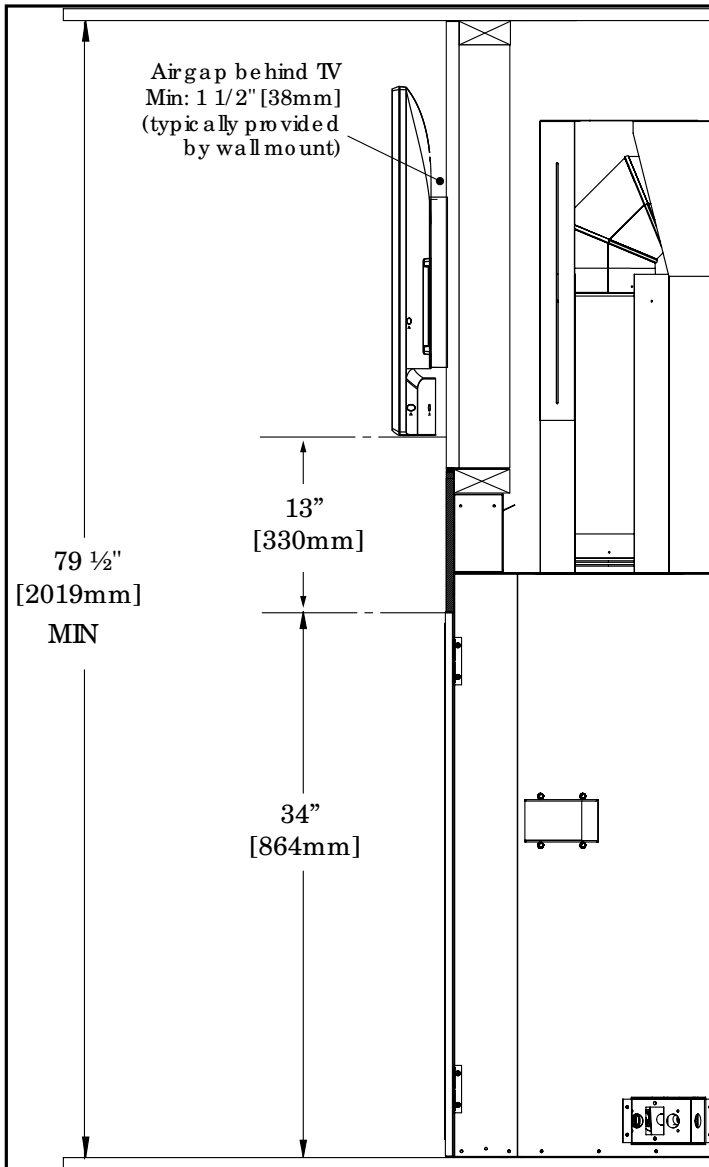

Figure 61: Recess w/ Mantel - TV Installation
**No Mantel or Recess with Cool Surface System:** If the cool surface system has been activated with an approved method of heat release (See INITIAL INSTALLATION - COOL SURFACE INSTALL OPTIONS) a TV may be installed **13" above the fireplace** without a recess or mantel (Figure 61). Operating temperatures of the TV still must be verified at the time of install to confirm they do not exceed the manufacturer's maximum allowable temperature.